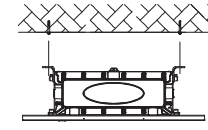

Figure 6
3. The holes on the bracket should be aligned with the expansion screws, then push the fixture to one side (Figure 6)